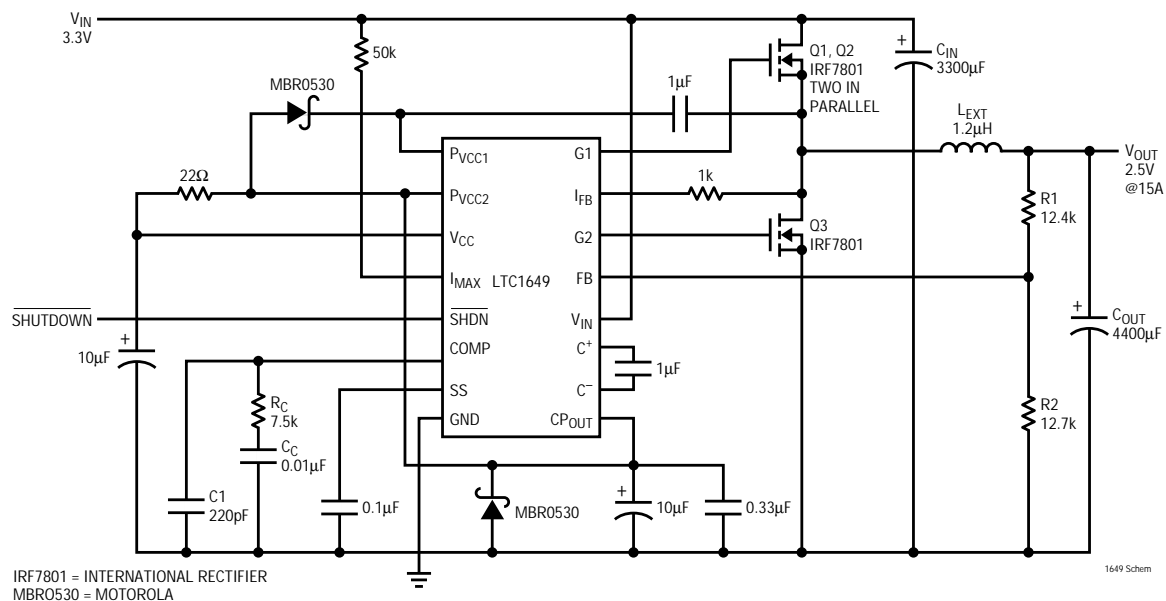

Figure 1. 3.3V to 2.5V, 15A Converter
| $V_{IN}$      | Minimum Supply Voltage               | Figure 1 (Note 3)  | ●   | 2.7   |            | V     |
| $V_{FB}$      | Feedback Voltage                     | Figure 1   | ●   | 1.25  | 1.265 1.28 | V     |
| $V_{CP-OUT}$  | Charge Pump Output Voltage           | Figure 1   | ●   | 4.8   | 5 5.2      | V     |
**$P_{VCC1}$  (Pin 2):** Power  $V_{CC}$  for Driver 1. This is the power supply input for G1. G1 will swing from  $P_{VCC1}$  to GND.  $P_{VCC1}$  must be connected to a potential of at least  $V_{IN} + V_{GS(ON)}(Q1)$ . This potential can be generated using a simple charge pump connected to the switching node between the two external MOSFETs as shown in Figure 1.
The LTC1649 features an internal charge pump that provides a regulated 5V output at the CPOUT pin with supply voltages at the VIN pin as low as 2.7V. This output is used to power the LTC1649 output drivers to provide 5V drive to the external MOSFETs. A typical application has the CPOUT pin connected directly to the PVCC2 pin, to the VCC pin through an RC filter, and to the PVCC1 pin via a simple charge pump at the SW pin, as shown in Figure 1 on the first page of this data sheet. The CPOUT pin can typically provide 5V at 50mA with a 3.3V supply at VIN, enough to drive multiple external MOSFETs in parallel. Input voltages below 3.3V reduce the current capacity at CPOUT, reducing the total gate capacitance the LTC1649 can drive. The circuit shown in Figure 1 on the first page of this data sheet will continue to adequately drive typical external MOSFETs with as little as 2.7V at VIN.